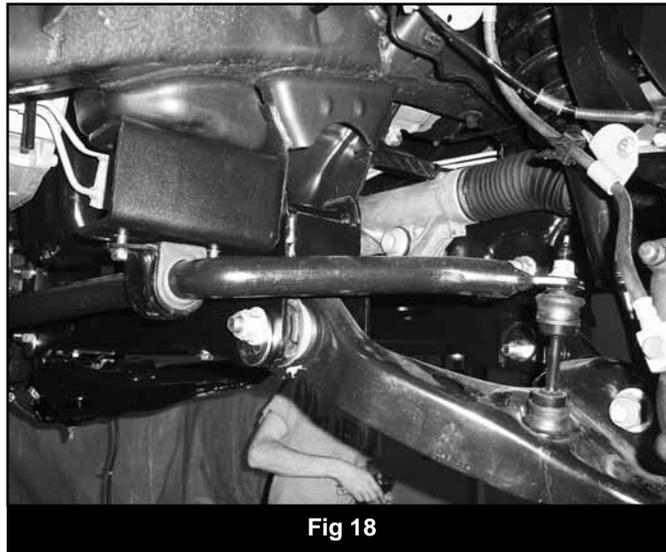

Fig 18
45. Install the sway bar to the new sway bar drop brackets (Fig 18) with 7/16" x 1-1/4" bolts, nuts and 7/16" SAE washers (BP 407). Attach the sway bar to the sway bar end links with the original hardware. Torque the 7/16" hardware to 45 ft-lbs. Torque sway bar link nut to 45 ft-lbs.